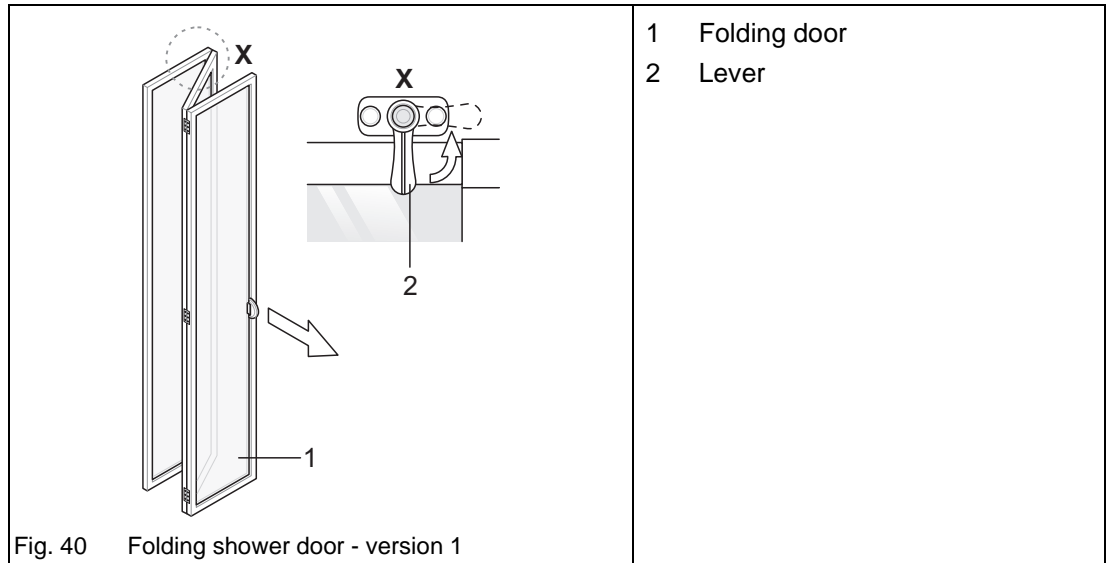

Fig. 40 Folding shower door - version 1
- ▲ Secure the folding door (Fig. 40/1) with the lever (Fig. 40/2).
- ➔ Unlock the lever (Fig. 40/2) before you close the folding door (Fig. 40/1).
- ➔ Push the folding door (Fig. 40/1) open.
- ➔ Secure the door with the lever (Fig. 40/2).